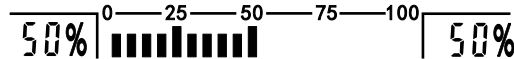

Figure 2-1-3 % status area
**Example:** ADT672 w/ (0~2)MPa, status area as figure 2-1-3 if the pressure is 1MPa.